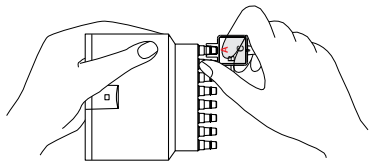

Fig. 7
- Push opening A of the tool (suitable for the pipette size at hand) from below over the nose cones in such a way as to ensure that the sharp edge in the opening of the tool is overlapping with the O-ring (see Fig. 7).